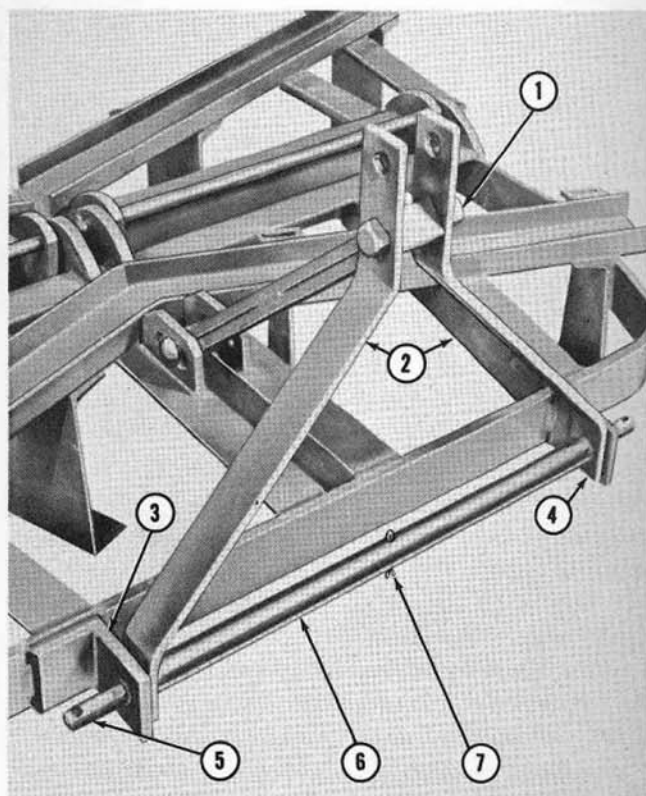

Figure 2
- a. Position the main frame on the bearing hangers as shown in Figure 2.
- c. Insert the rod (5), Figure 2, through the